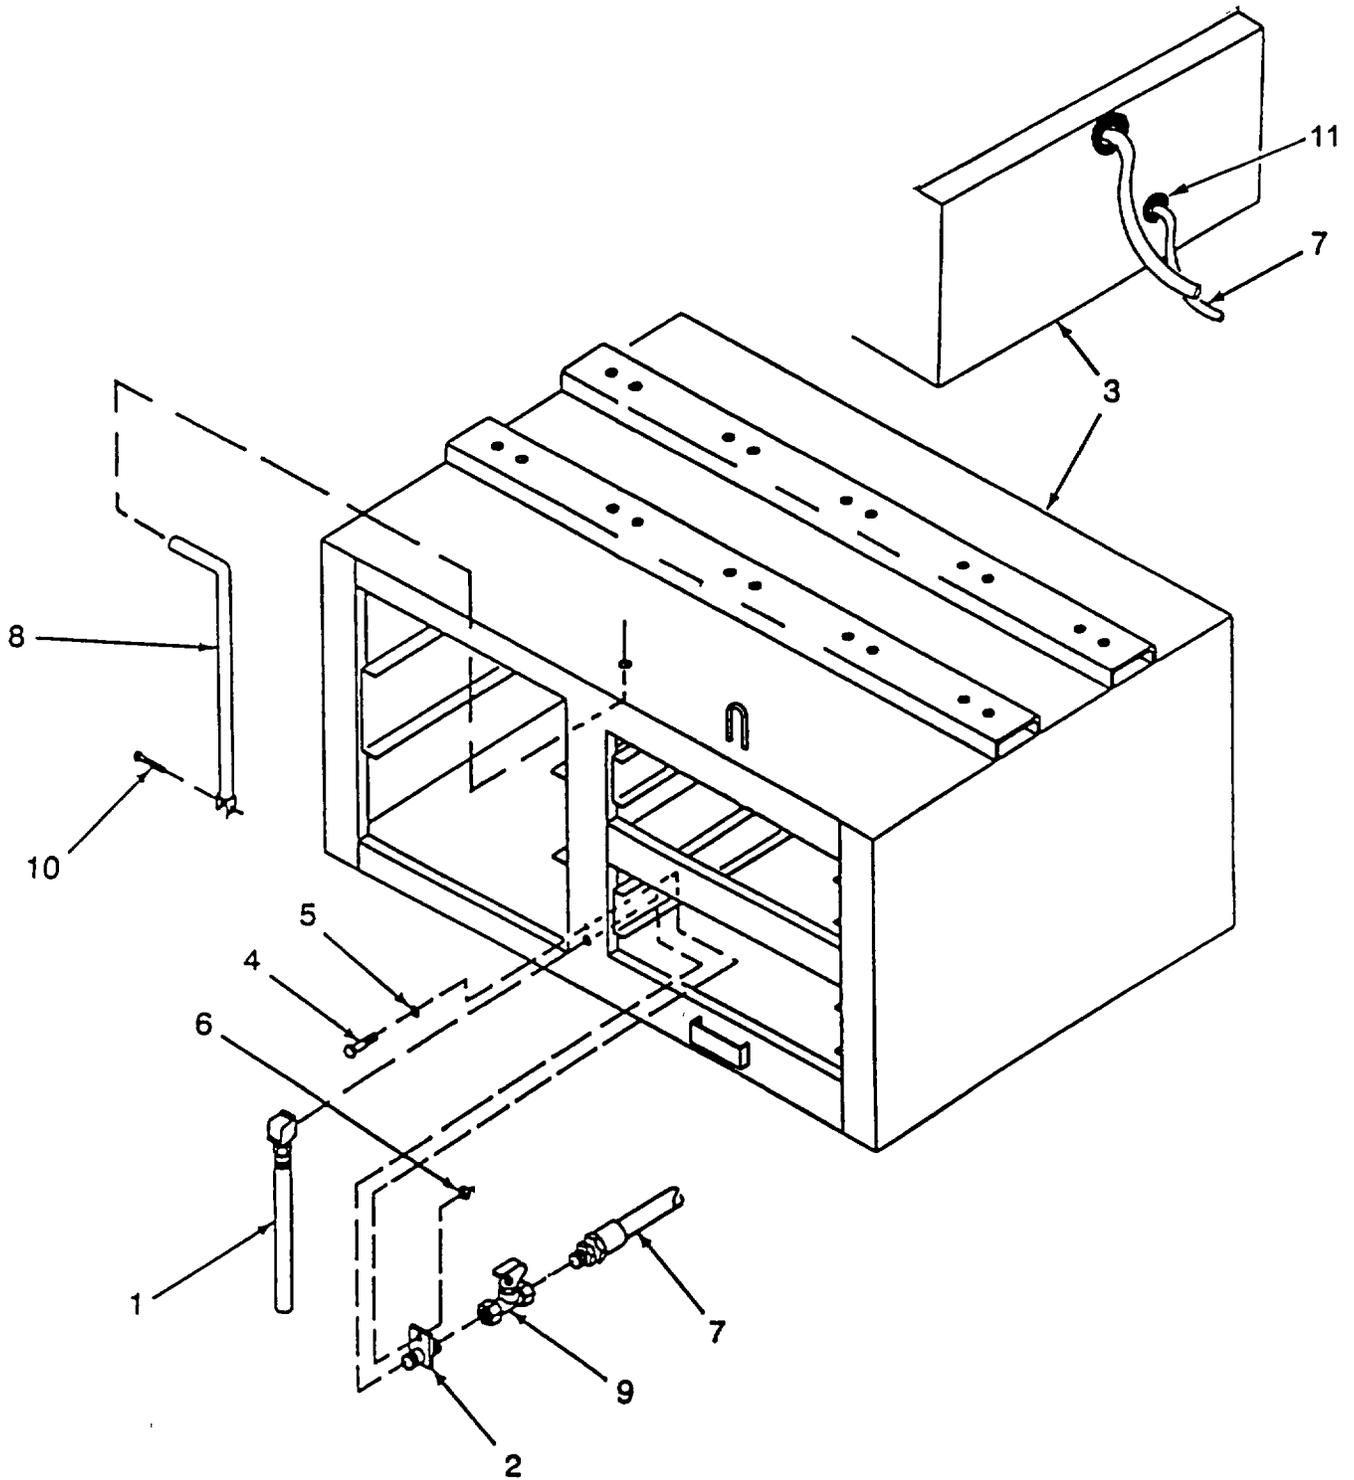

Figure 4-19. Condensate Drain Assembly
**a. Removal. (Refer to Figure 4-19.)**
- (1) Unscrew outer drain assembly (1) from condensate drain bracket (2).
- (2) Detach condensate drain bracket (2) from reel cabinet assembly (3) by removing hex head cap screw (4), washer (5), and self-locking nut (6) Discard self-locking nut.
- (3) Disconnect drain hose assembly (7) from side of air-receiver tank Remove grommet (11) and pull drain hose assembly (7) forward through hole in back of reel cabinet (3).
- (4) Remove lever (8) from condensate drain valve (9) by removing cotter pin (10).
- (5) Remove lever (8) from cabinet by pulling it down through hole in top of reel cabinet (3).
- (6) Unscrew and remove condensate drain bracket (2) from condensate drain valve (9).
- (7) Remove condensate hose assembly (7) from condensate drain valve (9).